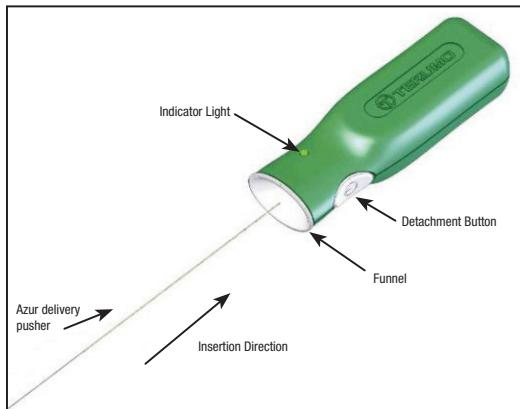

Figure 4 – Azur Detachment Controller
- Peel open the Azur Vascular Plug pouch and remove the dispenser hoop from the pouch. Prior to using the device, remove the wedge from the dispenser hoop. While keeping the Azur Vascular Plug implant and introducer in place, pull the pusher out of the dispenser hoop such that the proximal end of the delivery pusher is exposed. Use care to avoid contaminating this end of the delivery pusher with foreign substances such as blood or contrast. Firmly insert the proximal end of the delivery pusher into the funnel section of the Azur Detachment Controller. See Figure 4. **Do not push the detachment button at this time.**
- Connect the proximal end of the delivery pusher to the Azur Detachment Controller by firmly inserting the proximal end of the delivery pusher into the funnel section of the Azur Detachment Controller. See Figure 4.